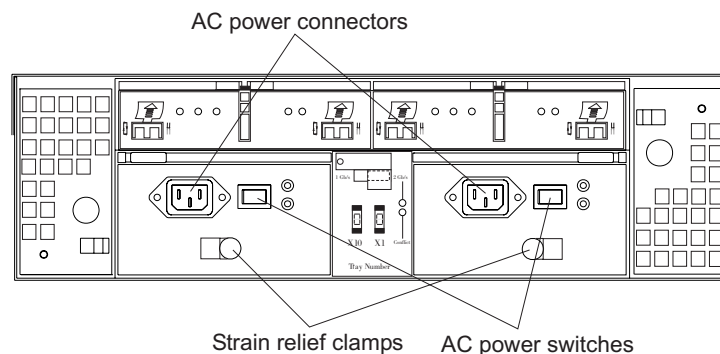

Figure 49. Connecting the power supply
5. Connect the power cable to the power supply ac connector. See Figure 49.